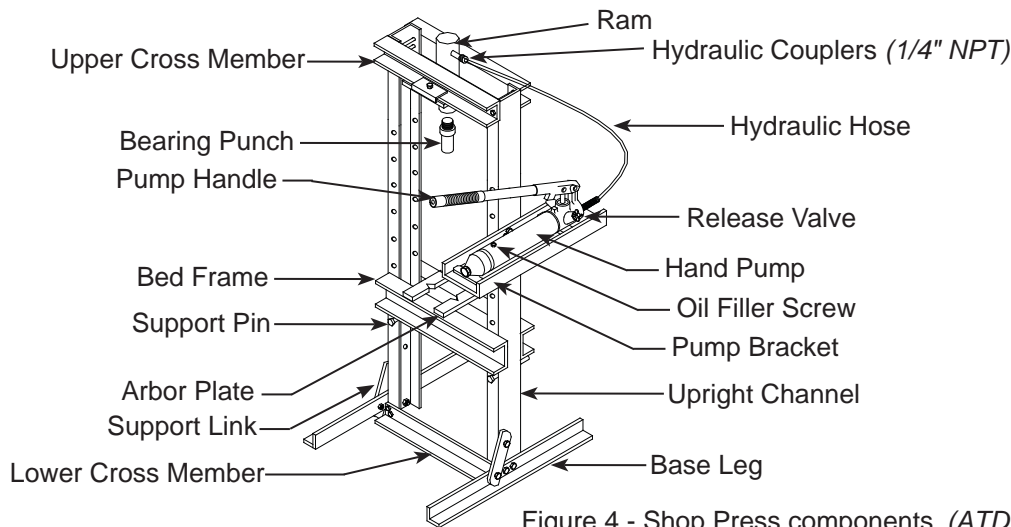

Figure 4 - Shop Press components (ATD-7455 shown)
1. Place pump at a higher elevation than the hose and ram as shown in figure 4.